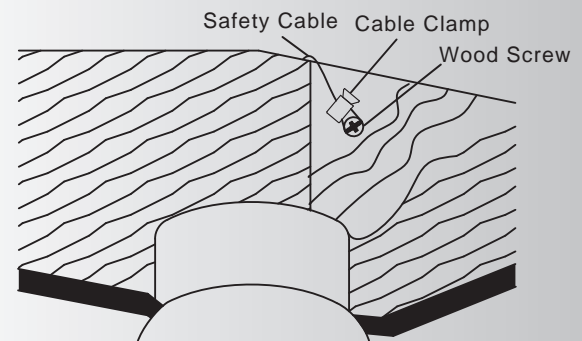

Fig. 10-2
Step 2. Adjust the length of the safety cable to reach the screw and washers by pulling the extra cable through the cable clamp until the overall length is correct, put the end of the cable back through the cable clamp, forming a loop at the end of the cable. Tighten the cable clamp securely. Now, put the loop in the end of the safety cable over the wood screw and under the washers. Tighten the wood screw securely. (Fig. 10-2)